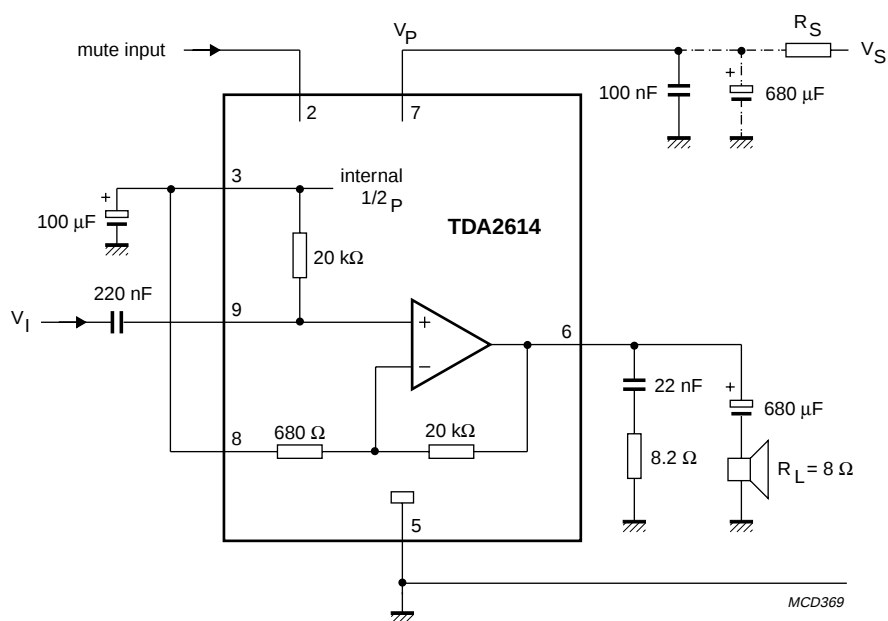

Fig.5 Test and application circuit with asymmetrical power supply.
- $V_P = 24$ V; $R_L = 8$ Ω ; $T_{amb} = 25$ °C; $f = 1$ kHz; asymmetrical power supply $I_{MUTE} < 30$ μ A. See Fig.5
- $V_P = 8$ V; $R_L = 8$ Ω ; $T_{amb} = 25$ °C; $f = 1$ kHz; asymmetrical power supply. See Fig.5